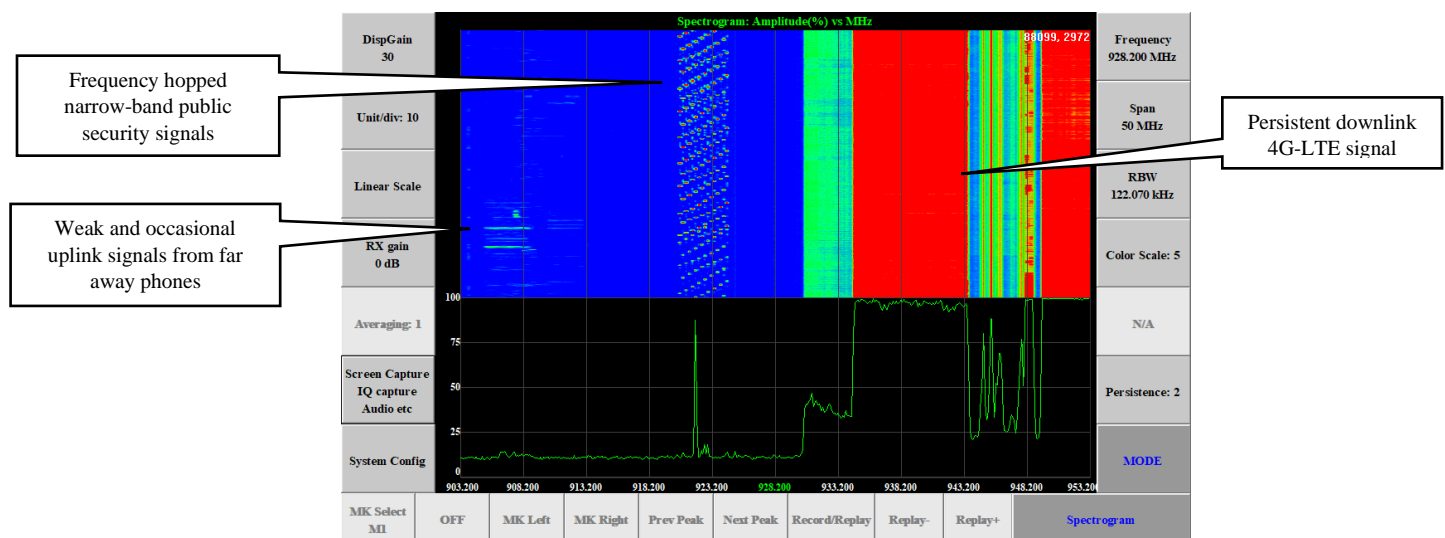

Figure 7, exemplary Spectrogram display.
2. The Y-axis can be changed to linear amplitude scale (instead of the conventional log-dB scale) to help discerning certain frequency hopped signals better. See Figure 7.